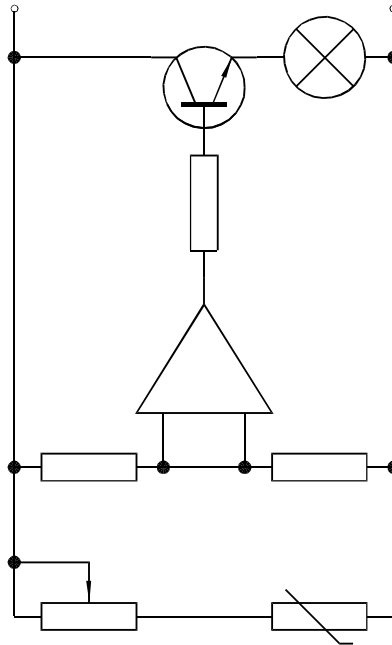

Fig. 9.24 Exercise 4
4. Construct the electronics circuit given in Fig. 9.24 from the file **Fig. 17.dwg** using the **DesignCenter**.